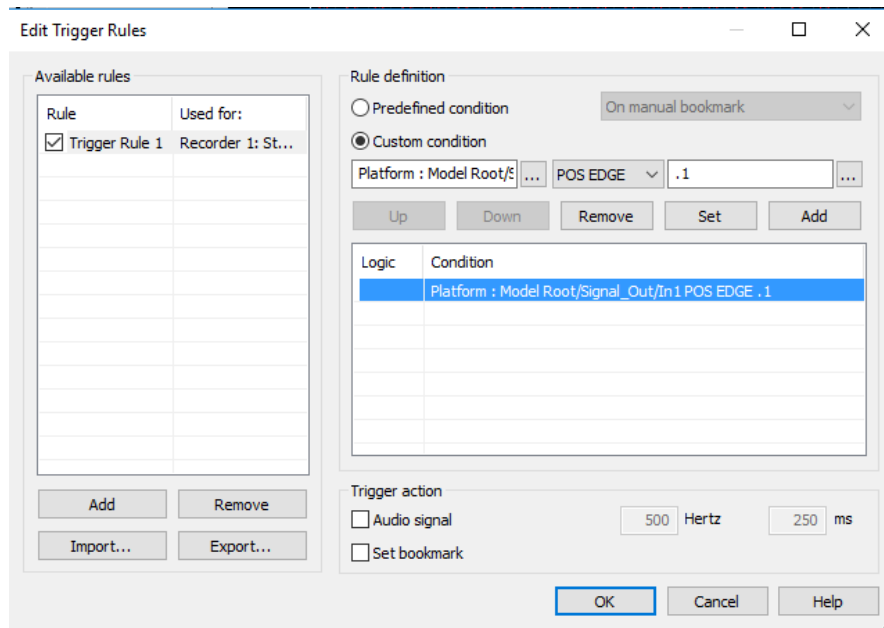

Figure 22: Edit Trigger Rules Window
- b. **Triggering the recording:** It is important to note that the *Recorder* and *Trigger rules* only control data capture. They will not affect when voltages are applied, nor will they start/stop any signals from being applied or read. With this in mind, you can use the *Trigger Rules* to start the recording of desired variables when some variable threshold is crossed. There are multiple ways to save data using a trigger signal. One method is to use a Start Trigger. Under the **Properties tab > Start Condition**, check the **Use Start Trigger** checkbox. Click on the browse button for the **Trigger Rule**. This should open up a new window called **Edit Trigger Rules**, as shown in Fig. 22, where you will set the conditions and thresholds that will start the data capture.
The trigger settings can be saved for a later experiment as well. As shown in Fig. 22, click on **Export> Save as type: Trigger Rules Files (*.txt) >**. Give it a new name. To load the saved trigger settings, click on **Import> Browse** and find the trigger file that you want to load.